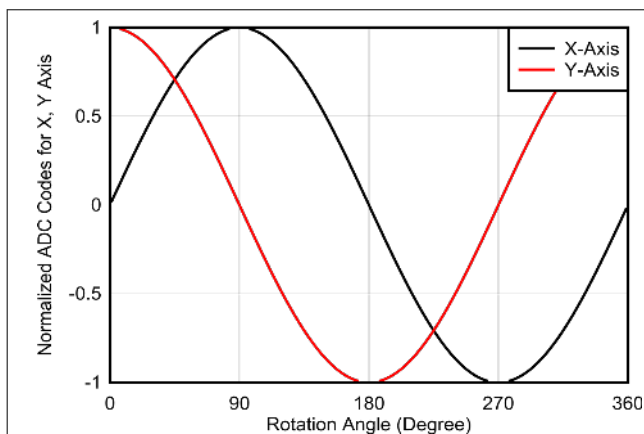
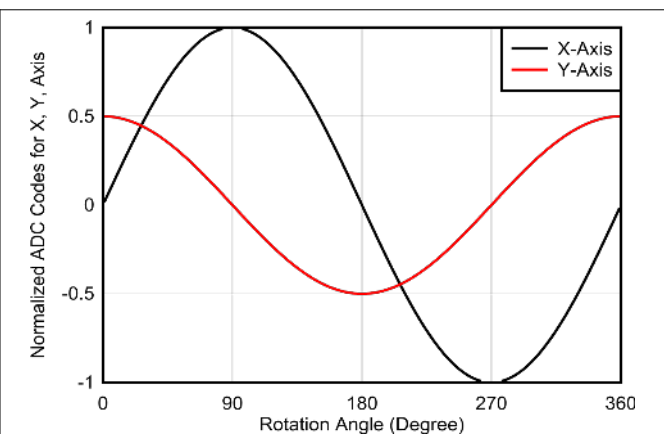

Figure 8-17. X and Y Sensor Data for Full 360 Degree Rotation for On-Axis Measurement
Figure 8-18. X and Y Sensor Data for Full 360 Degree Rotation for Off-Axis Measurement
- A normalized plot for the full 360 degree rotations are represented in Figure 8-17 or Figure 8-18.